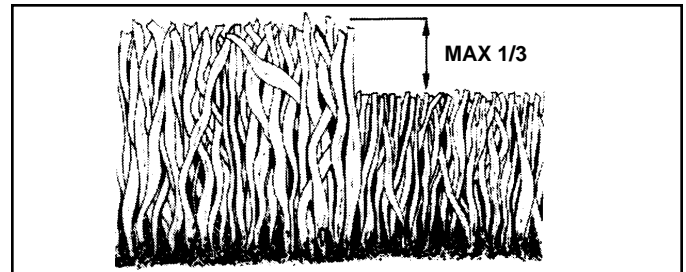

FIG. 14
- For best results, adjust the mower cutting height so that the mower cuts off only the top one-third of the grass blades (See Fig. 14). For extremely heavy mulching, reduce your width of cut and mow slowly.